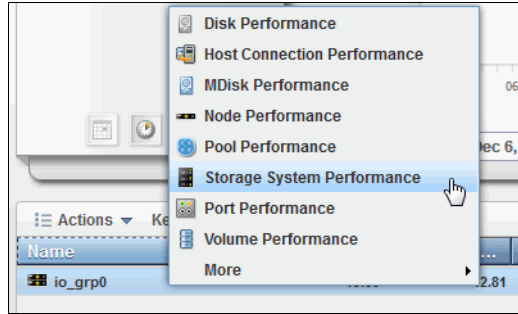
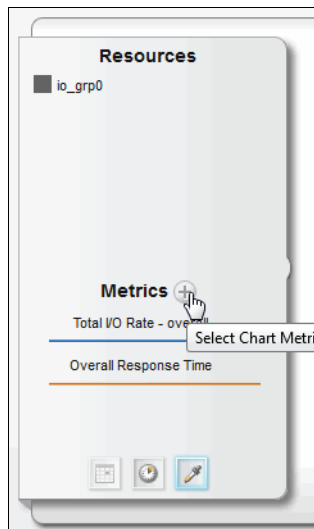
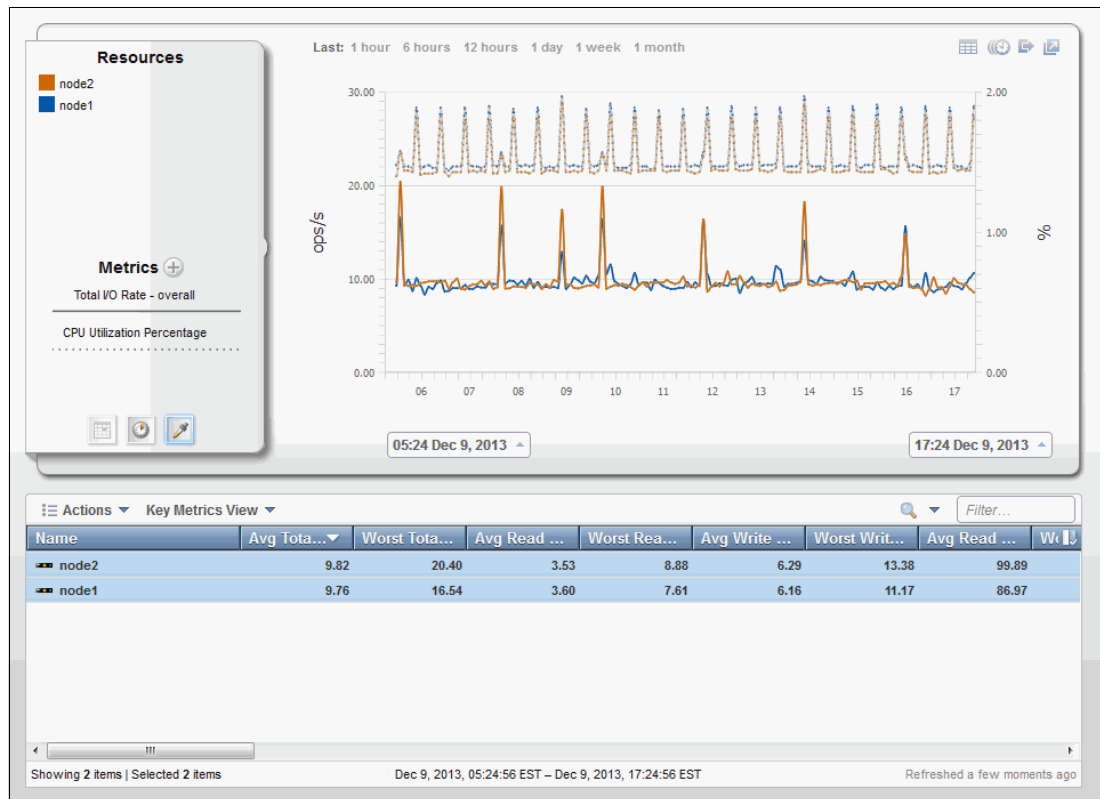
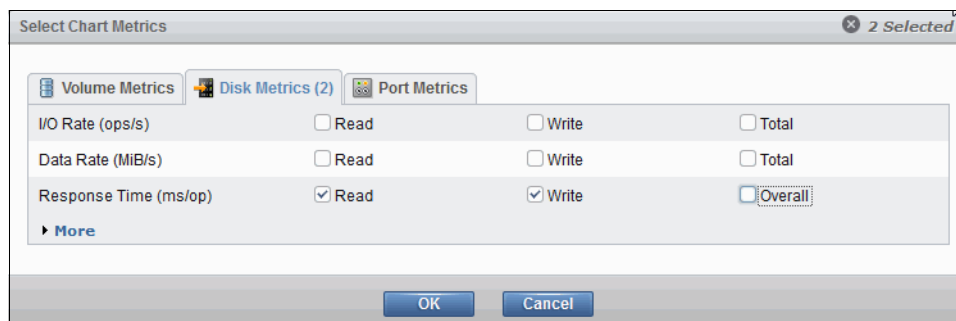

Figure 13-33 Accessing related performance metrics
Figure 13-34 Modifying the performance metrics displayed
Figure 13-36 Viewing the performance of I/O group nodes
Figure 13-38 Disk metrics selection
- To display the performance metrics for a related entity, such as the volumes of the I/O Group or the storage system to which the I/O group belongs, right-click anywhere in the row for the I/O Group and click a selection, as shown in Figure 13-33 on page 394. A browser window opens that displays the corresponding performance.
- To display different metrics in the chart, click + next to the Metrics heading in the legend area to the left of the chart, as shown in Figure 13-34.
To drill down into the nodes that make up the I/O group, right-click anywhere in the row that corresponds to the I/O group and select **Node Performance**, as shown in Figure 13-33 on page 394. This opens a window that displays the total I/O rate and CPU utilization for each of the nodes in the I/O group, as shown in Figure 13-36.
I/O Group CPU Utilization indicates how busy the cluster nodes are. To generate a graph of CPU utilization, click the + next to the Metrics heading in the legend area to the left of the chart, as shown in Figure 13-34 on page 394, select the **CPU Utilization Percentage** metric and clear any other selected metrics, as shown in Figure 13-36, then click **OK**.
Tip: To view the CPU Utilization percentage of the individual nodes in the I/O Group, open a new performance window for the I/O Group nodes, as shown in Figure 13-33 on page 394. In that window, follow the same steps as described in this section.
To view the disk read and write response time at the node level, click the + next to the Metrics heading in the legend area to the left of the chart (as shown in Figure 13-34 on page 394), clear any selected metrics, select the **Response Time (ms/op) Read** and **Write** metrics, as shown in Figure 13-38, and then click **OK**.